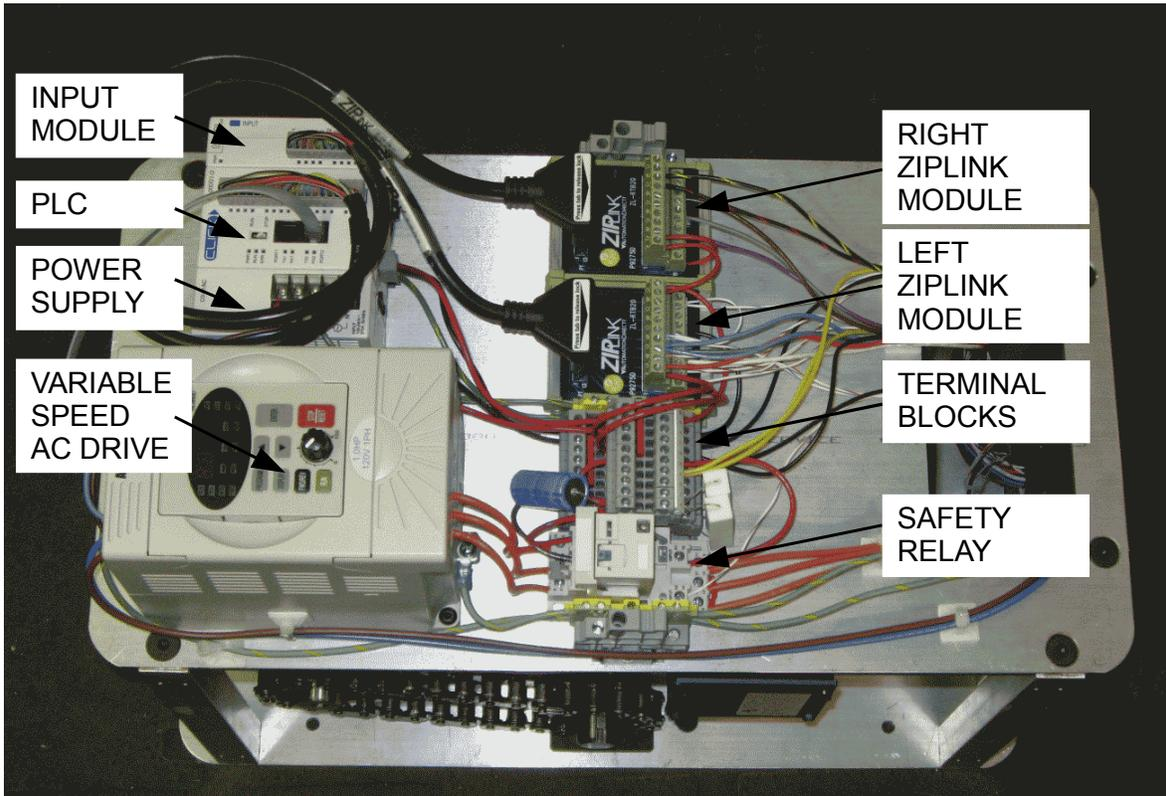
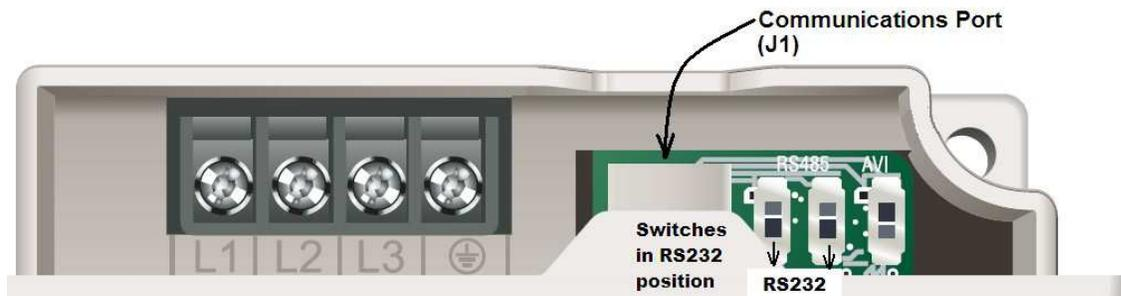

Figure 17: IPL Power Unit Components
Figure 18: AC Drive Switches and Connections
Note: voltage measurements such as “0 V” and “24 V” are made by securing the voltmeter negative lead at lower TB9 (the 24 V power supply ground), or a point connected to it, such as C3 on the left ziplink terminal block or the range of lower terminal blocks TB6 to TB10. Place the voltmeter positive lead on the screw terminal at the point to be measured, such as left Ziplink module X3. The left Ziplink terminals are the same points as the PLC (such as X1 to X8), and the right Ziplink terminals (C1, C2, 1, and 2) are the same points as the Input module. Reference Figure 17 for component locations.
- Is the PLC “PWR” lamp lit? (See Figure 17) If not, check the AC power cord and power switch.
- Is the AC drive LED display lit? (See Figure 17.)
- If the E-stop switch is pulled out and the X7 and X8 indicators on the PLC are on (see Figure 19), then measure the voltage at Safety Relay terminal A2. It should be less than 0.5 V if the slack and broken chain switch is closed (see Table 1 and reference Figure 17 for component locations.) Check the slack and broken chain switch action (see Section 4) if the switch is not closed. Otherwise, proceed to check the PLC.
- Verify the slide switch is in the RUN position and the flat (“communications”) cable is connected to Port 2 of the PLC and J1 of the AC drive. (Reference Table 2, Figure 18, and Figure 19.)
- 4) **AC Drive:** lift the cover near the left side of Figure 17 (below) and verify SW2 and SW3 are in the RS232 position. Reference Figure 18. The flat gray (“communications”) cable between J1 of the AC drive and port 2 on the PLC has a mark on the PLC end of the cable. Verify that the marked end of the communications cable is plugged into port 2 of the PLC.